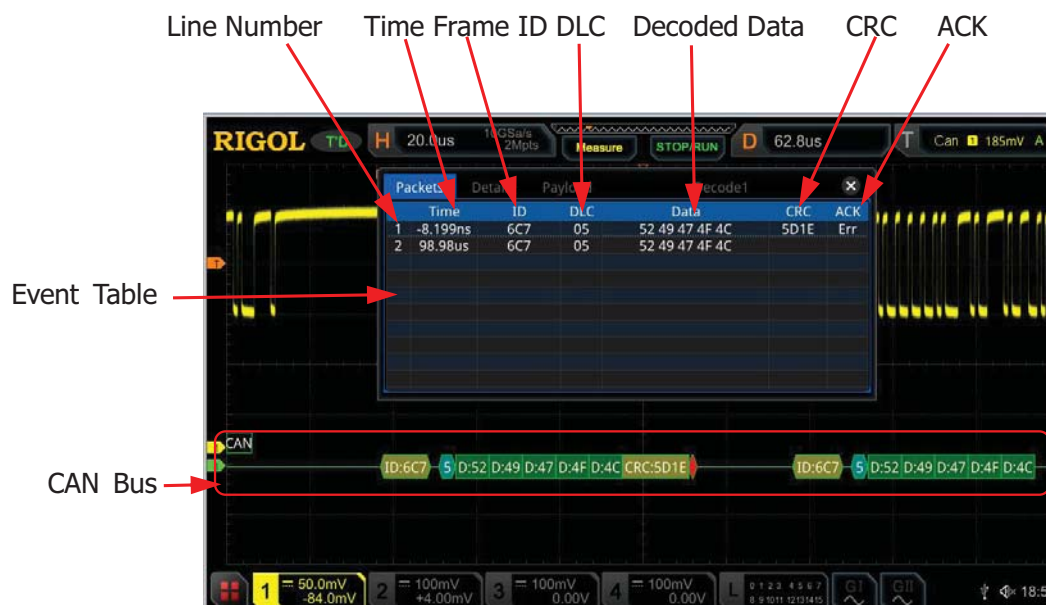

Figure 11-11 CAN Decoding Event Table
- Open or close the event table: Press **Event Table** continuously to enable or disable the event table. When you enable the event table, the following figure is displayed, as shown in Figure 11-11. You can also enable the touch screen to tap the icon  at the upper-right corner of the table to close the event table. Besides, when the operating status is "STOP", you can also rotate the multifunction knob  to select a specified line and view the corresponding decoding information.